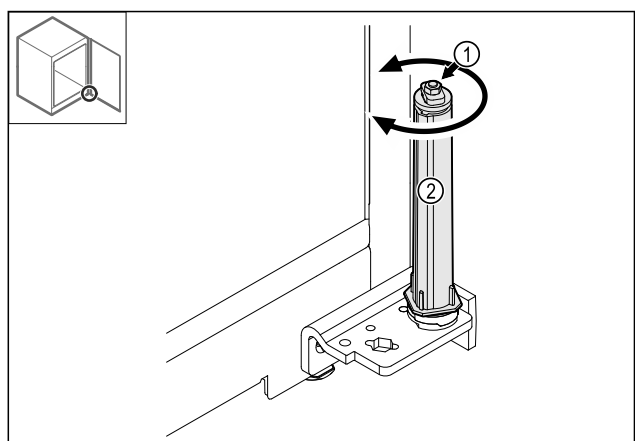

Fig. 37
- Do not dismantle the screw connection Fig. 37 (1) on the locking system.
- Turn the locking system Fig. 37 (2) until it clicks.